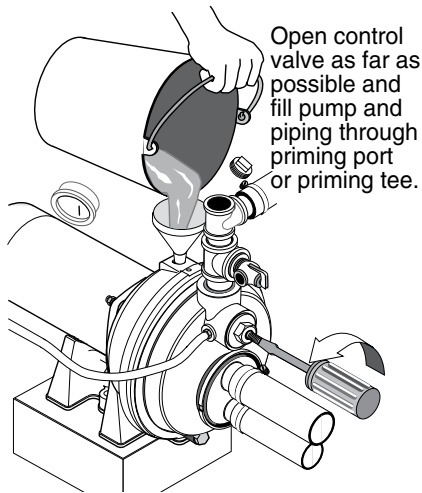

Figure 13 – Fill Pump
1. Open the control valve as far as possible (See Figure 13). Then remove the priming plug from the pump and fill the pump, fill all piping between the pump and the well, and make sure that all piping in the well is full. If you have also installed a priming tee in the suction piping, remove the plug from the tee and fill the suction piping.